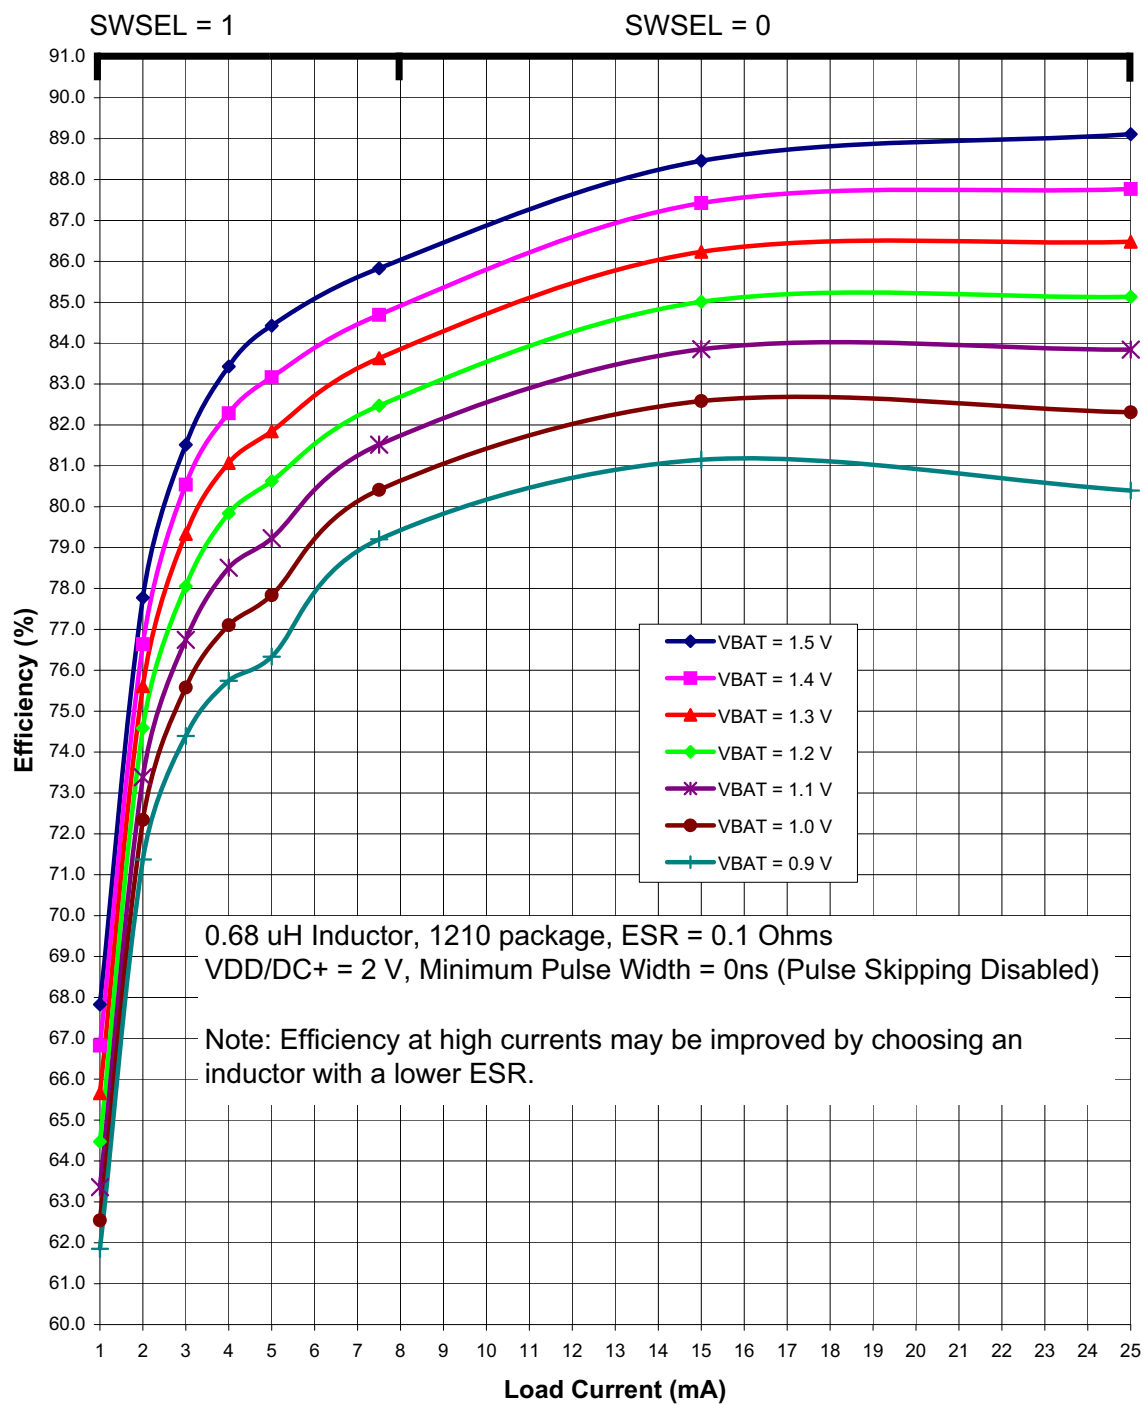
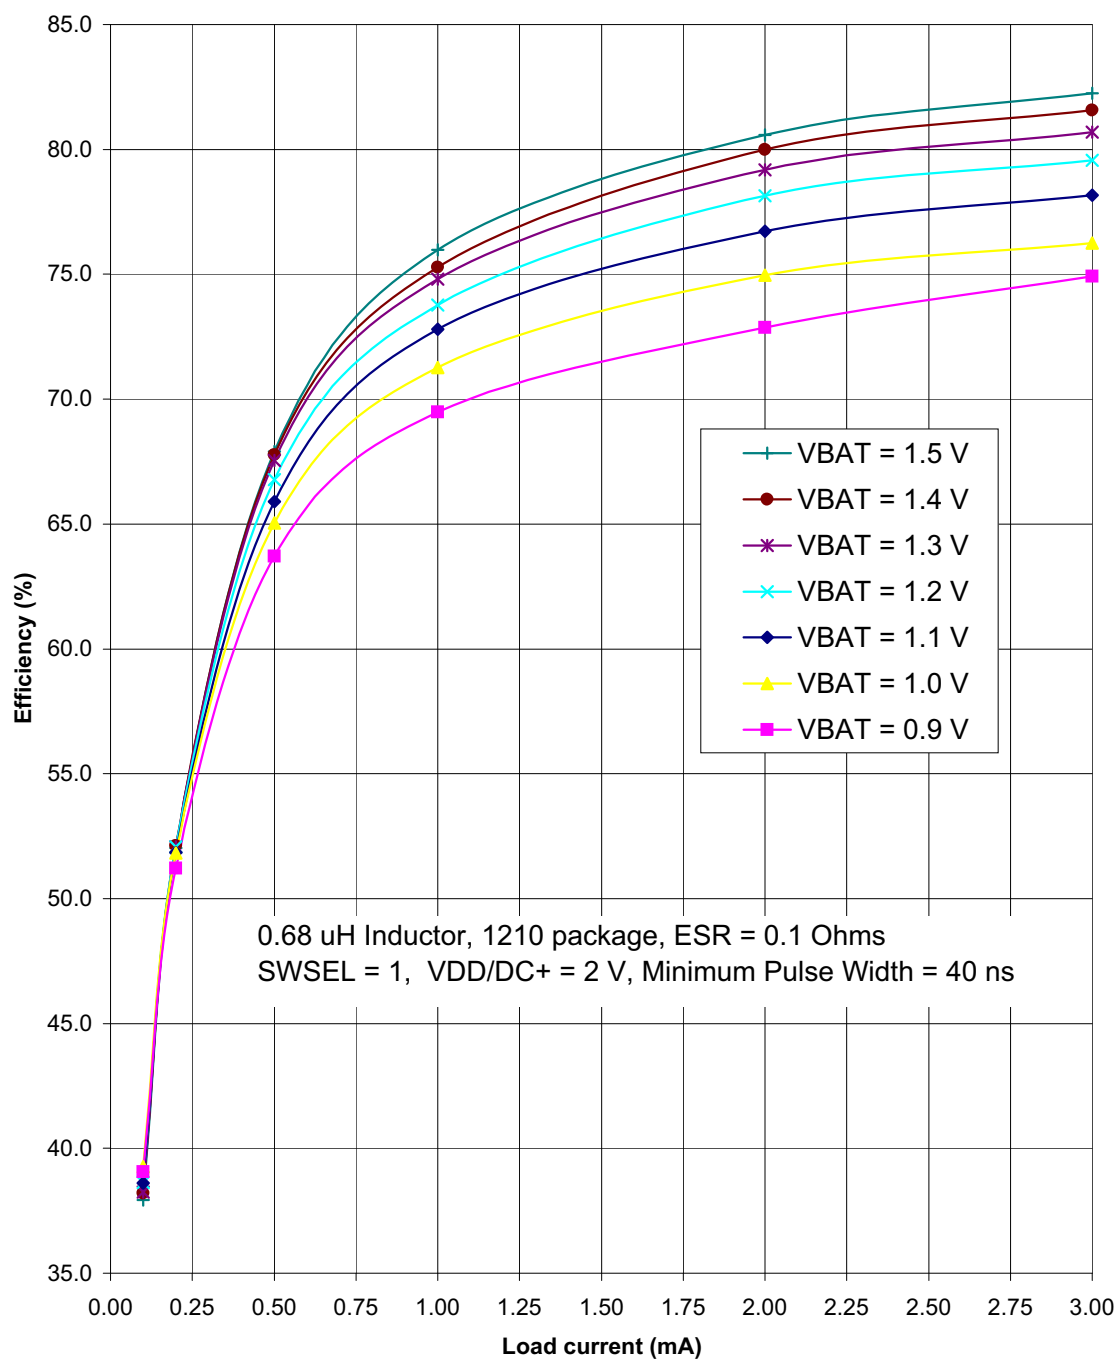

Figure 4.3. Typical DC-DC Converter Efficiency (High Current, VDD/DC+ = 2 V)
Figure 4.5. Typical DC-DC Converter Efficiency (Low Current, VDD/DC+ = 2 V)
Notes: - Based on device characterization data; Not production tested. - SYSCLK must be at least 32 kHz to enable debugging. - Digital Supply Current depends upon the particular code being executed. The values in this table are obtained with the CPU executing an "sjmp \$" loop, which is the compiled form of a while(1) loop in C. One iteration requires 3 CPU clock cycles, and the flash memory is read on each cycle. The supply current will vary slightly based on the physical location of the sjmp instruction and the number of flash address lines that toggle as a result. In the worst case, current can increase by up to 30% if the sjmp loop straddles a 128-byte flash address boundary (e.g., 0x007F to 0x0080). Real-world code with larger loops and longer linear sequences will have few transitions across the 128-byte address boundaries. - Includes oscillator and regulator supply current. - IDD can be estimated for frequencies ≤ 10 MHz by simply multiplying the frequency of interest by the frequency sensitivity number for that range, then adding an offset of 90 μA. When using these numbers to estimate I_{DD} for >10 MHz, the estimate should be the current at 25 MHz minus the difference in current indicated by the frequency sensitivity number. For example: $V_{DD} = 3.0$ V; $F = 20$ MHz, $I_{DD} = 4.1$ mA – $(25 \text{ MHz} - 20 \text{ MHz}) \times 0.120 \text{ mA/MHz} = 3.5$ mA. - The Supply Voltage is the voltage at the VDD_MCU pin, typically 1.8 to 3.6 V (default = 1.9 V). Idle IDD can be estimated by taking the current at 25 MHz minus the difference in current indicated by the frequency sensitivity number. For example: $V_{DD} = 3.0$ V; $F = 5$ MHz, Idle $I_{DD} = 2.5$ mA – $(25 \text{ MHz} - 5 \text{ MHz}) \times 0.095 \text{ mA/MHz} = 0.6$ mA. - The supply current specifications in Table 4.2 are for two cell mode. The VBAT current in one-cell mode can be estimated using the following equation: $\text{VBAT Current (one-cell mode)} = \frac{\text{Supply Voltage} \times \text{Supply Current (two-cell mode)}}{\text{DC-DC Converter Efficiency} \times \text{VBAT Voltage}}$ The VBAT Voltage is the voltage at the VBAT pin, typically 0.9 to 1.8 V. The Supply Current (two-cell mode) is the data sheet specification for supply current. The Supply Voltage is the voltage at the VDD/DC+ pin, typically 1.8 to 3.3 V (default = 1.9 V). The DC-DC Converter Efficiency can be estimated using Figure 4.3–Figure 4.5. - The radio peripheral is placed in Shutdown mode.